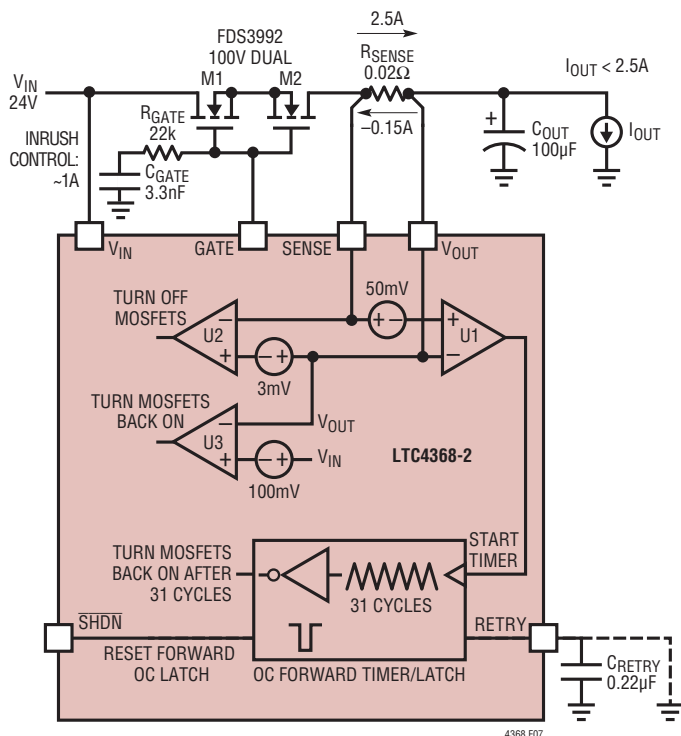
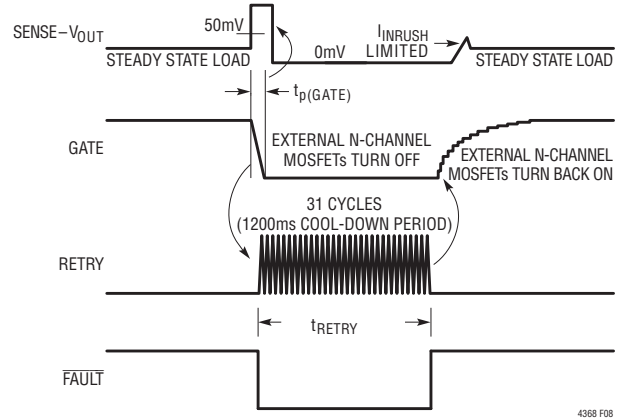

Figure 7. Overcurrent Comparators Monitor 2.5A/-0.15A Current Faults
Figure 8. Forward Overcurrent Fault with $0.22\mu F$ RETRY Capacitor
The 3.3nF C_{GATE} capacitor in the application circuit of Figure 7 limits the inrush current to just over 1A. R_{GATE} prevents C_{GATE} from slowing down the reverse polarity protection circuits. It also stabilizes the fast pull-down circuits and prevents chatter during fault conditions. Set R_{GATE} to 22k for most applications.
Forward overcurrent protection prevents large currents from flowing from V_{IN} to V_{OUT} . This threshold current is determined by the external sense resistor (R_{SENSE}) and an internal comparator (Figure 7, U1) with a 50mV threshold:
For the example of Figure 7, if 2.5A flows to the output across the 20m Ω sense resistor, the external MOSFETs (M1, M2) are immediately (8 μ s) turned off. This disconnects the load from the input supply.
For the example of Figure 7, the 3.3nF GATE capacitor and the 100 μ F output capacitor limit the inrush current (I_{INRUSH}) to approximately 1A. This means that the output current (I_{OUT}) must be less than 1.5A during turn on in order to avoid a forward overcurrent fault during turn on. Once V_{OUT} has ramped to its final value, the output current is limited to 2.5A.
1. Automatically restart by placing an external capacitor on the RETRY pin. An internal cool-down timer will charge/discharge this capacitor 31 times with a 5.5ms/nF total delay. At the end of this delay, the external MOSFETs are turned back on, thus reconnecting the load to the input supply. The 0.22 μ F capacitor (C_{RETRY}) in the application of Figure 7 yields a 1200ms cool-down timer delay. Note that the adjustable cool-down period provides the user with a means of keeping the external MOSFETs within the rated SOA (safe operating area). See Figure 8 timing diagram.
Reverse overcurrent protection prevents large currents from flowing from V_{OUT} to V_{IN} . There are two options for reverse overcurrent protection thresholds. The LTC4368-1 ($-50mV$) bidirectional circuit breaker allows load current to flow in either direction: from V_{IN} to V_{OUT} or from V_{OUT} to V_{IN} . The LTC4368-2 provides diode-like behavior by making the reverse overcurrent threshold ($-3mV$) significantly smaller than the forward overcurrent threshold ($+50mV$). The reverse overcurrent fault threshold is determined by the external sense resistor (R_{SENSE}) and an internal comparator (Figure 7, U2). For the LTC4368-2 application of Figure 7:
To turn the MOSFETs back on, an internal comparator (Figure 7, U3) detects when V_{OUT} drops $100mV$ below V_{IN} :